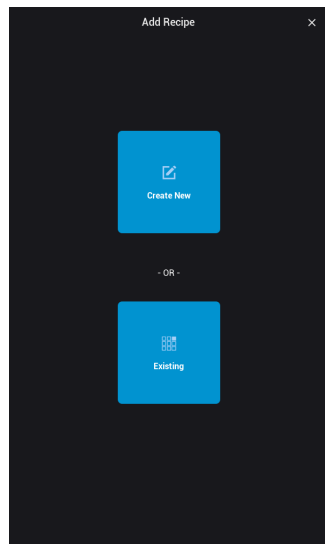

Figure 24: Add/Create Recipe
2. Touch the “create new” recipe button shown above. (Figure 24).